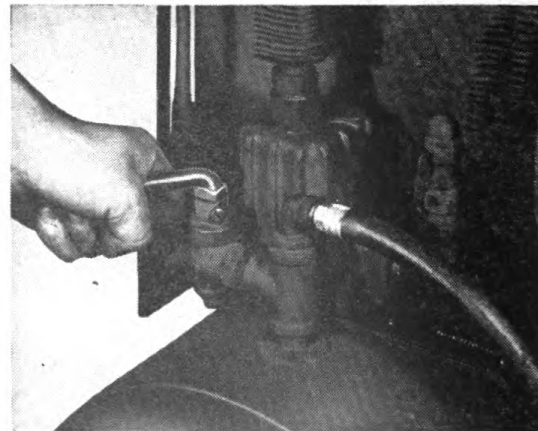

Figure 13
e. Open valve at receiver (compressor tank) outlet (See Figure 13).
c. After shutting off the engine, close the valve at the receiver outlet (See Figure 13). This allows air to bleed out of main air line to lubricant pumps, which in turn automatically relieves the grease pressure in the hose assemblies due to the action of the "Hose Miser" built into the pumps. Releasing the pressure in the hose assemblies when not in use will greatly increase their life.